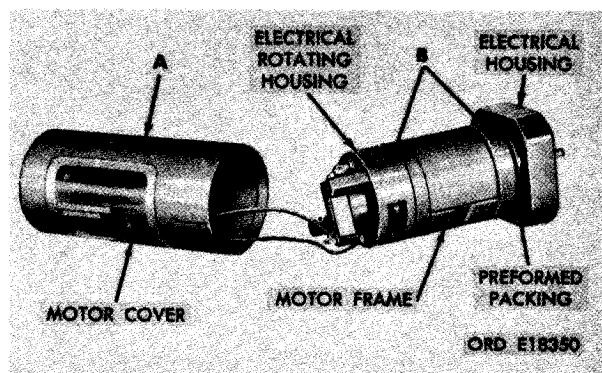

FIGURE 423. REMOVING OR INSTALLING MOTOR COVER.
- (3) Figure 423. (A) Twist cover clockwise to release and remove from preformed packing. (B) Scribe alignment marks on rotating housing and motor frame to insure proper alignment during assembly.